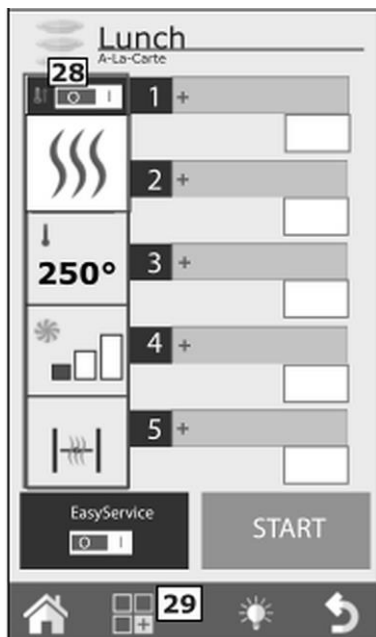

Fig. 36
2. In such case press the Functions key (29, Fig. 36) and proceed with settings, as explained in section 'Copying, Moving, Renaming, and Removing Thermal Processing Programs'.
3. Then press the Functions key (29, Fig. 36) and continue saving the program as described and explained in section 'Saving Thermal Processing Program'.